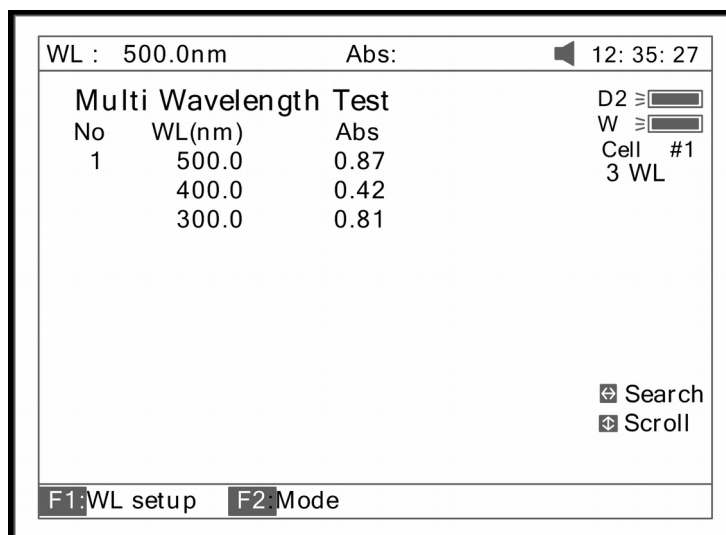

Fig 71
4. Pull the sample cuvette into Main Light Path, press **(START)** to test. The test results will be displayed on the screen (Fig 71).